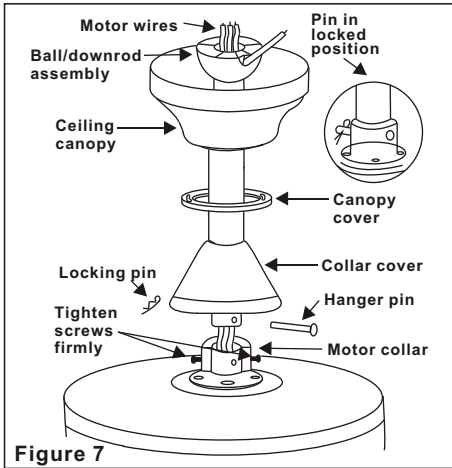

Figure 7
Step 6. Route wires exiting from the top of the fan motor through the collar cover, canopy cover, canopy and then through the ball / downrod. (Fig. 7)
Step 7. Align the holes at the bottom of the downrod with the holes in the collar on top of the motor housing (Fig.7). Carefully insert the hanger pin through the holes in the collar and downrod. Be careful not to jam the pin against the wiring inside the downrod. Insert the locking pin through the hole near the end of the hanger pin until it snaps into its locked position, as noted in the circle inset of Fig. 7.
Step 8. Tighten two set screws on top of the fan motor firmly (Figure7)